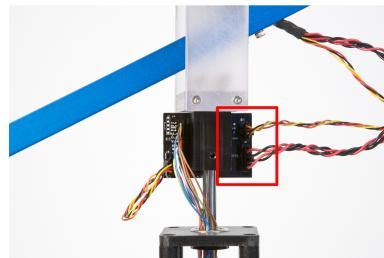

Figure 3.7: Connect the motor and encoder to the 3 DOF Helicopter circuit board.
7. Connect the 4-pin rectangular encoder connector and the 6-pin rectangular motor connector from the 3 DOF Helicopter arm to the pedestal circuit board as shown in Figure 3.7.